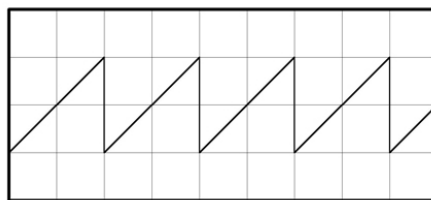

Figure 5: Sawtooth signal
9. **(BONUS: 2 points)** Now that you are expert with D/A converters and Arduino coding, it is time to write your own code to generate a *saw-tooth* signal (Figure 5) at the output. The simplest way to do this is to introduce a variable that is incremented by 1 in a loop ("for" loop can come in handy -check <http://arduino.cc/en/Reference> for more details), and whose value is output to pins D_5 through D_0 . Give it a shot.